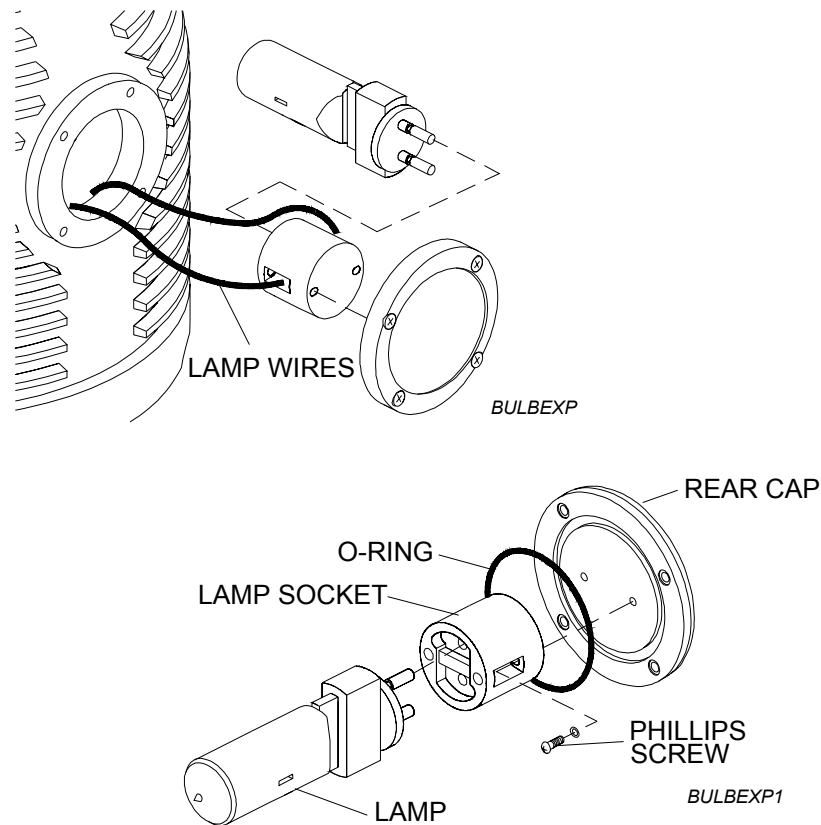

Figure 6.10 - Lamp Socket Removal
Replacing the Lamp Socket (See Figure 6.10)
3. Remove lamp from socket (refer to 6.1.1 Replacing the Lamp and Figure 6.10).
4. Remove lamp from socket (refer to 6.1.1 Replacing the Lamp and Figure 6.10).